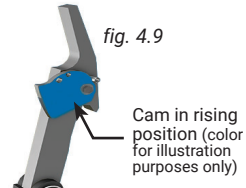

fig. 4.9
- 2- Lock the lowering cam on both the cylinder hook and the secondary hook (fig. 4.9).